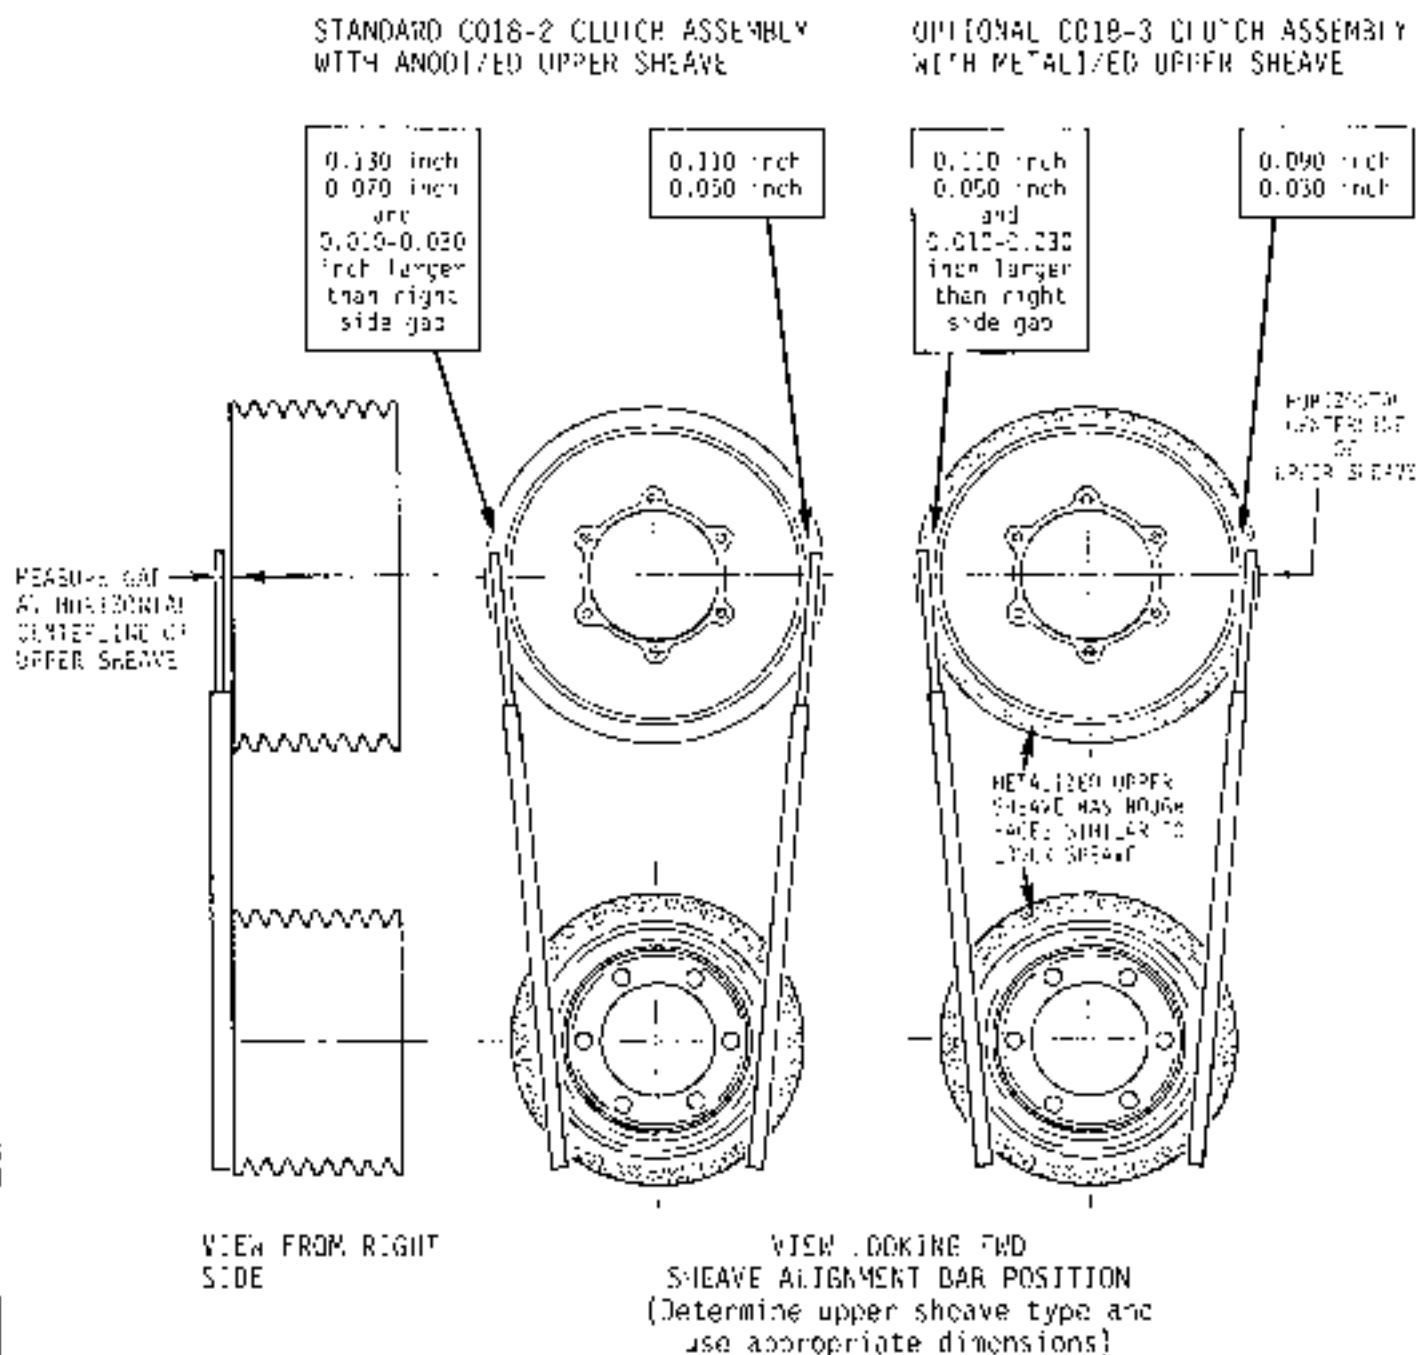

FIGURE 7-6 SHEAVE ALIGNMENT DIMENSIONS
3. Measure left and right gaps per Figure 7-6. Both gaps must be within noted limits and left gap must be 0.010:0.030 inch larger than right gap. Adjust lateral clutch centering per Section 7.250 if left gap is not 0.010:0.030 inch larger than right gap.
2. Check sheave alignment on left and right side per Figure 7-6.